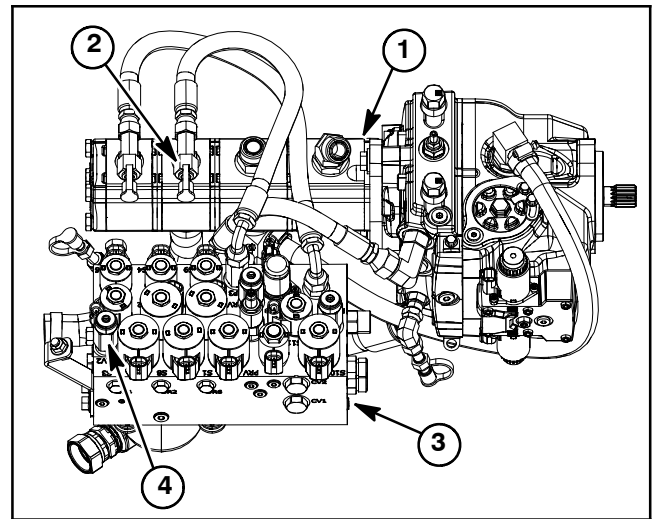

Figure 42
3. Connect a 5,000 PSI (345 bar) pressure gauge to test fitting attached to tee fitting in third section of gear pump (Fig. 42).